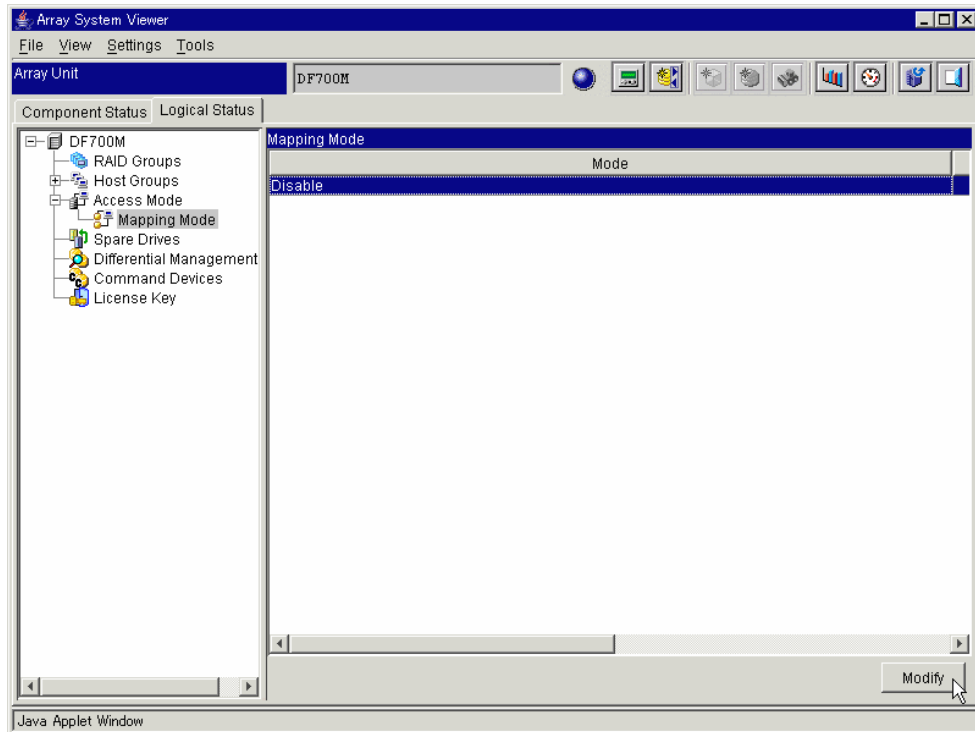

Figure 7.6 Array System Viewer - Mapping Mode
2. Click the **Access Mode** plus sign next to the **Mapping Mode**. See Figure 7.6.